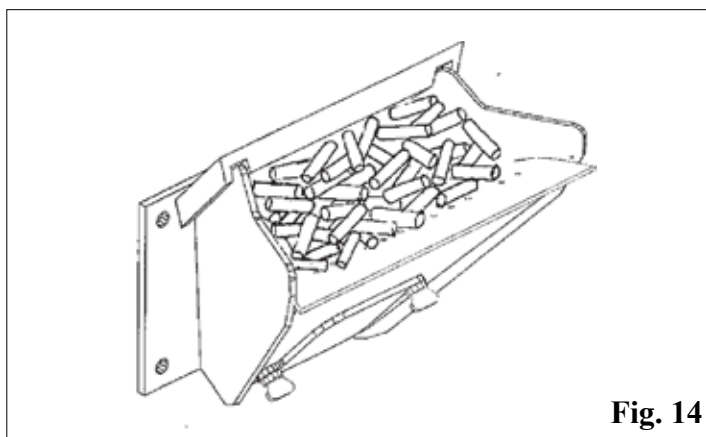

Fig. 14
8. Fill burnpot with pellets as shown. See Fig. 14. Only fill level with the front edge. ( ----- DO NOT OVERFILL ----- )